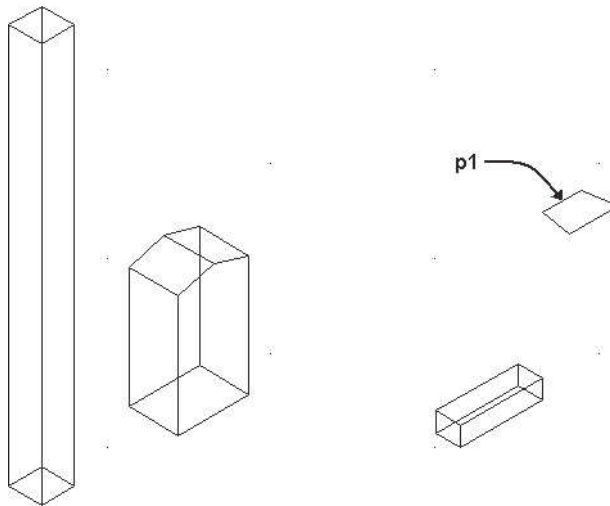

FIGURE 4.52 Selection of a polyline to create a Profile
9. Select the polyline at p1 as shown in Figure 4.52, right-click, and choose Convert To > Mass Element. Respond to the following workspace prompts to specify the mass element: